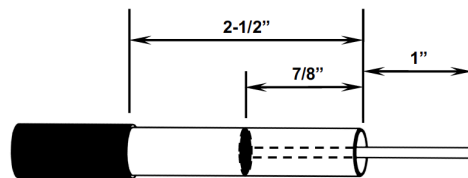

Fig. 2
1. Cut ends of cable square. If cable has outer jacket, remove jacket to expose cable outer conductor approximately two and one-half inches, as shown in Figure 2. If cable has a flooding compound, remove flooding compound from cable outer conductor using an approved cleaner, in accordance with the cable manufacturer recommendations.
2. Core cable and expose the center conductor using a commercially available core/strip tool as shown in Figure 2.